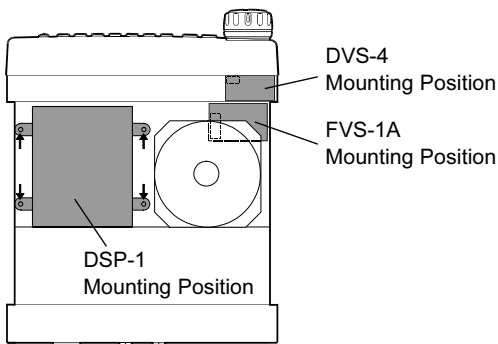

Figure 2
2. Locate the empty 11-pin jack, and connect the **DSP-1** here (see Figure 2).
2. Locate the empty 8-pin jack, and connect the **DVS-4** here (see Figure 2).
2. Locate the empty 10-pin jack, and connect the **FVS-1A** here (see Figure 2).